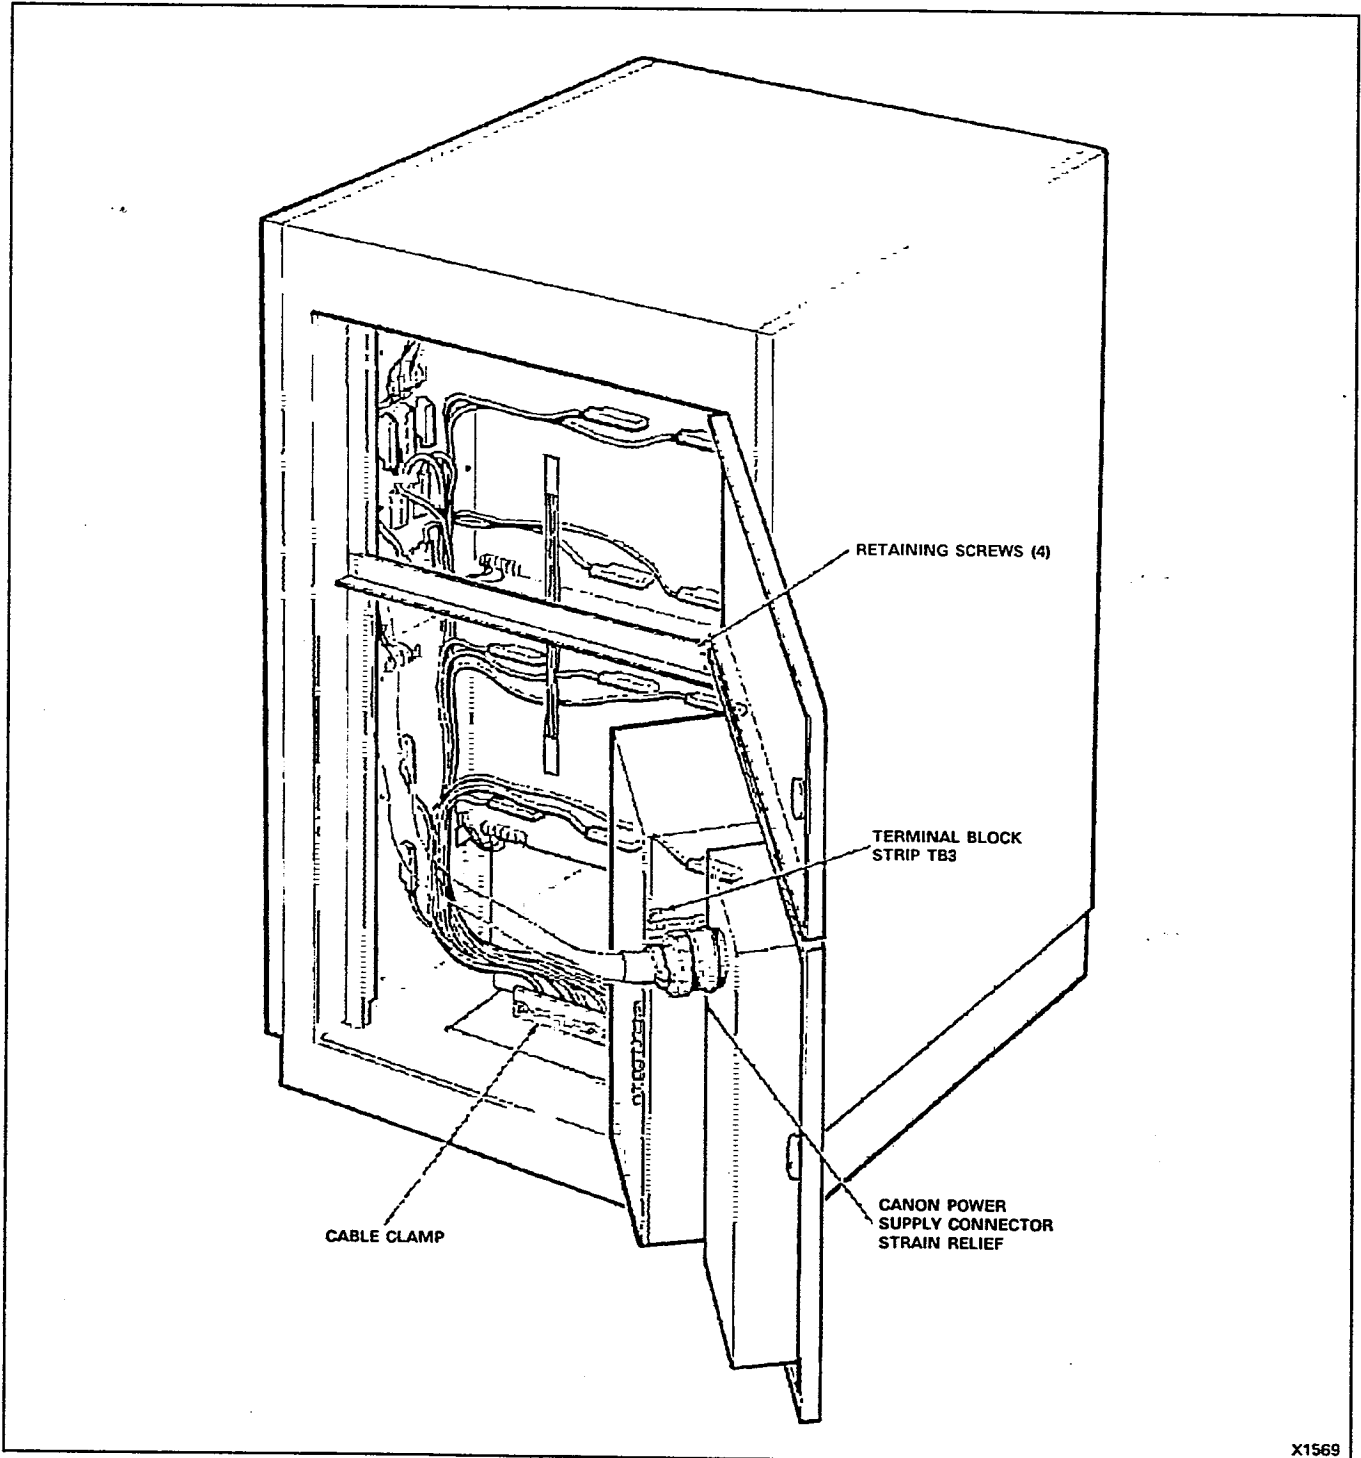

Figure 507-1 SX-200 Rear Door
- AT CABINET REAR DOOR (FIGURE 507-1)**
- (2B) Repeat Steps (2) and (3) of MAP350-506